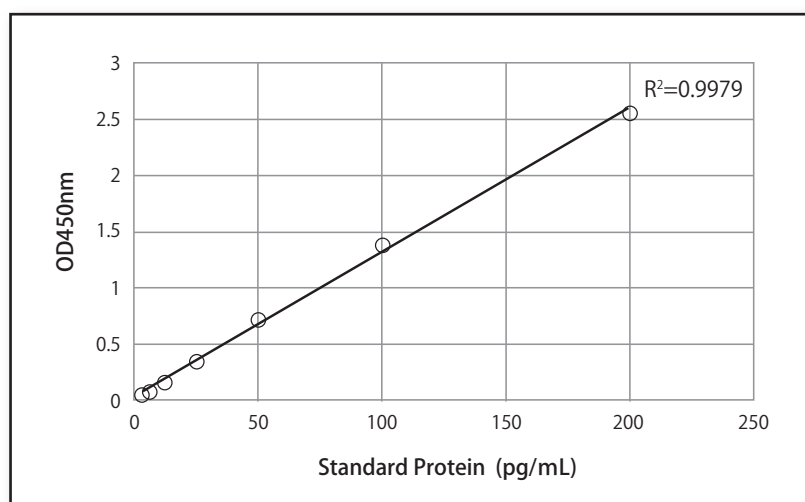

Fig. 1 Example of Standard curve for Standard Protein.
- 14 Plot absorbance on the X-axis, and the measurement of Standard Protein on the Y-axis, and then draw a Standard curve (Fig. 1).